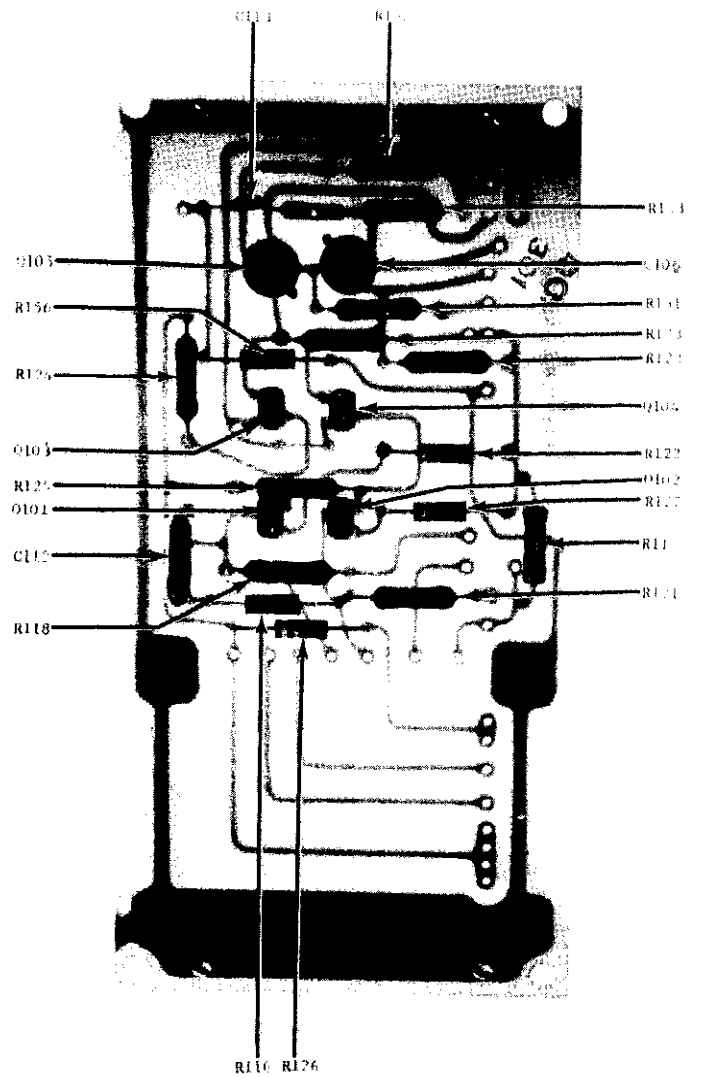

FIGURE 25. Component Locations on Printed Circuit PC-115.
3. Check the next stage by connecting the Model 153 across the emitters of Q101 and Q102 (Figure 25) and adjusting the COARSE and MEDIUM ZERO Controls for null. If null is not reached, check this stage and the base circuit of the next stage. Check the base circuit by removing transistors Q103 and Q104 (Figure 25) and again adjusting for null. If null is now reached, replace the transistor pair with a new pair.
4. Check the next stage by connecting the Model 153 across the collectors of Q103 and Q104 (Figure 25), and adjusting the COARSE and MEDIUM ZERO Controls for null. If null is not reached, check this stage and check for shorts in the base circuit of Q105 and Q106 (Figure 25).
b. Connect the Model 153 across the collectors of transistors Q105 and Q106 (this is across the ends of resistors R152 and R153, Figure 25). Make the connections from the component side of the printed circuit board. Float the Model 153 low terminal.